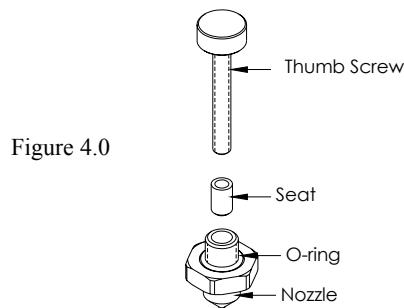

Figure 4.0
1. Remove Stroke Control Adjustment Knob (19) by rotating it counterclockwise and beyond the “Line Marker” position.
2. Remove the Compression Spring (1) and the two Mylar Washers (18) on each end of the Compression Spring.
3. Using the open-end wrench to remove the Locking Cap (8) and then pull the Air Cap (11) out from the Fluid Housing (7).
4. Using the open-end wrench to remove the old Nozzle (9) and Spacer (13).
5. Reinstall Spacer (13) and using the open-end wrench to reinstall new Nozzle (9), make sure the O-ring is on the Nozzle; do not over tighten the Nozzle.
6. Install new Air Cap (11) and then secure it with the Locking Cap (8).
7.4 Seat Replacement (See Fig. 4.0)